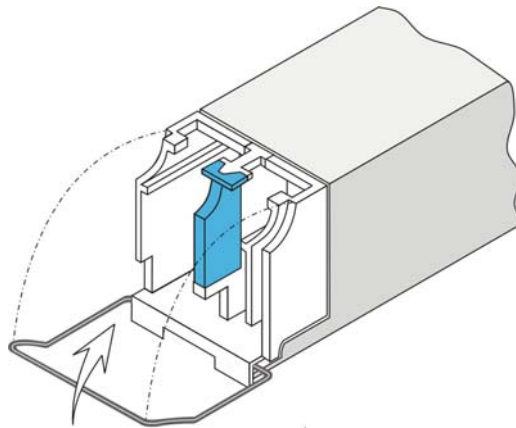

Figure 2-5. Locking the SFP Wire Latch
1. Lock the wire latch of each SFP module by lifting it up until it clicks into place, as illustrated in Figure 2-5.